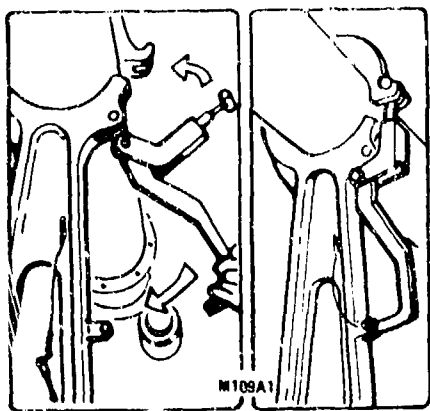

Figure 7-3. M109A1/A2/A3 gun travel lock.
c. *Gun travel lock.* The gun travel lock (figs 7-3 and 7-4) supports the overhanging weight of the tube and relieves stress on the elevating and traversing mechanisms. It is adjustable to insure proper locking of the tube during travel.